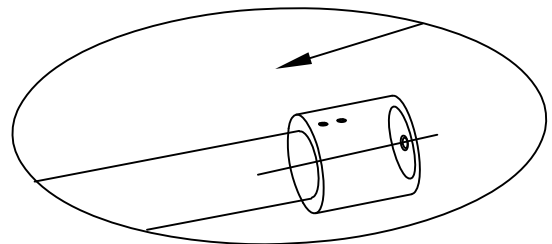

Fig. 5
- Slide the Rail End Assembly (5) (6) on to end of Top Rail (2) to be connected shower wall. Loosely tighten the Rail End Assembly (5) into place on Top Rail (2) making sure the rail end assembly is fully engaged on top rail. Repeat for the other side. See Fig.5 for details.